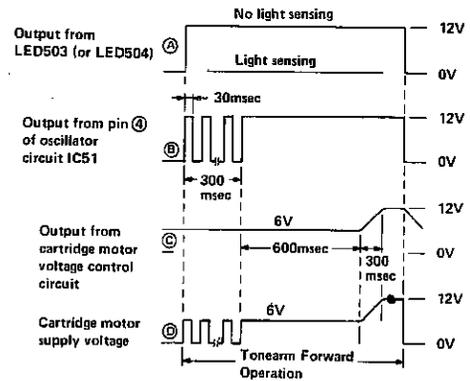

Figure 12-3
The "high" level signal applied to the oscillator circuit goes out of pin ④, which is a pulse shown in Fig. 12-3 ③ to drive Q521, the output of which is reversed in polarity to be fed to the cartridge motor normal/reverse rotation selector circuit.
The "high" level signal applied to the cartridge motor voltage control circuit turns on Q537 and about 900 msec later (this time is decided by R599 and C509) it turns off Q51. Therefore as shown in Fig. 12-3 C, a power of 12 V is fed to the voltage control circuit when Q51 is turned off while it is limited to 6 V by ZD51 when Q51 is turned on. In this way, the voltage to be fed to the cartridge motor is stabilized as shown in Fig. 12-3 D, so that the motor rotation is quiet with no vibration and noise.